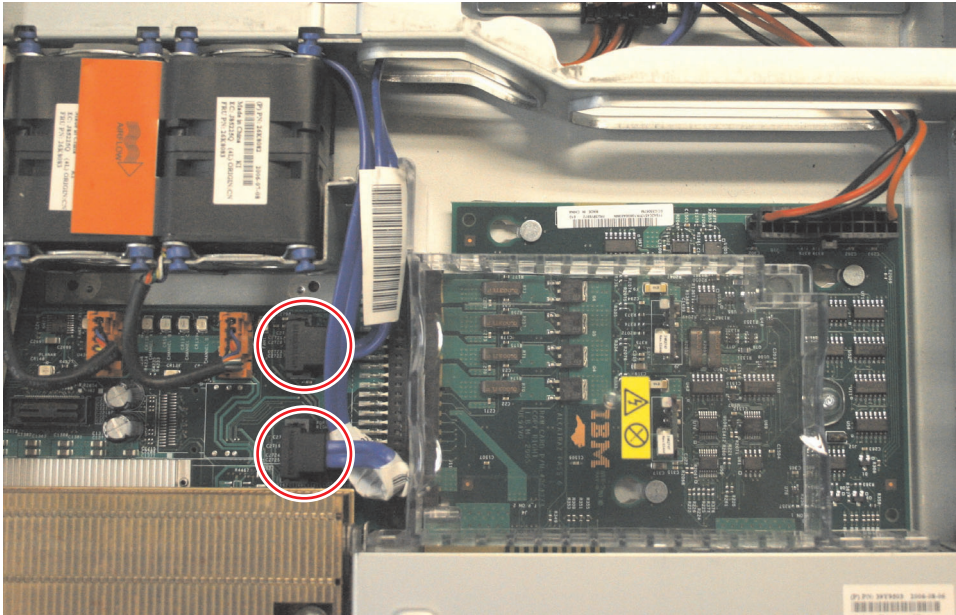

Figure 117. The SAN Volume Controller 2145-8G4 disk-drive backplane connectors
8. Disconnect the two blue signal cables from the system board, shown in Figure 117 on page 130, and disconnect the power cable from the power supply backplane card.